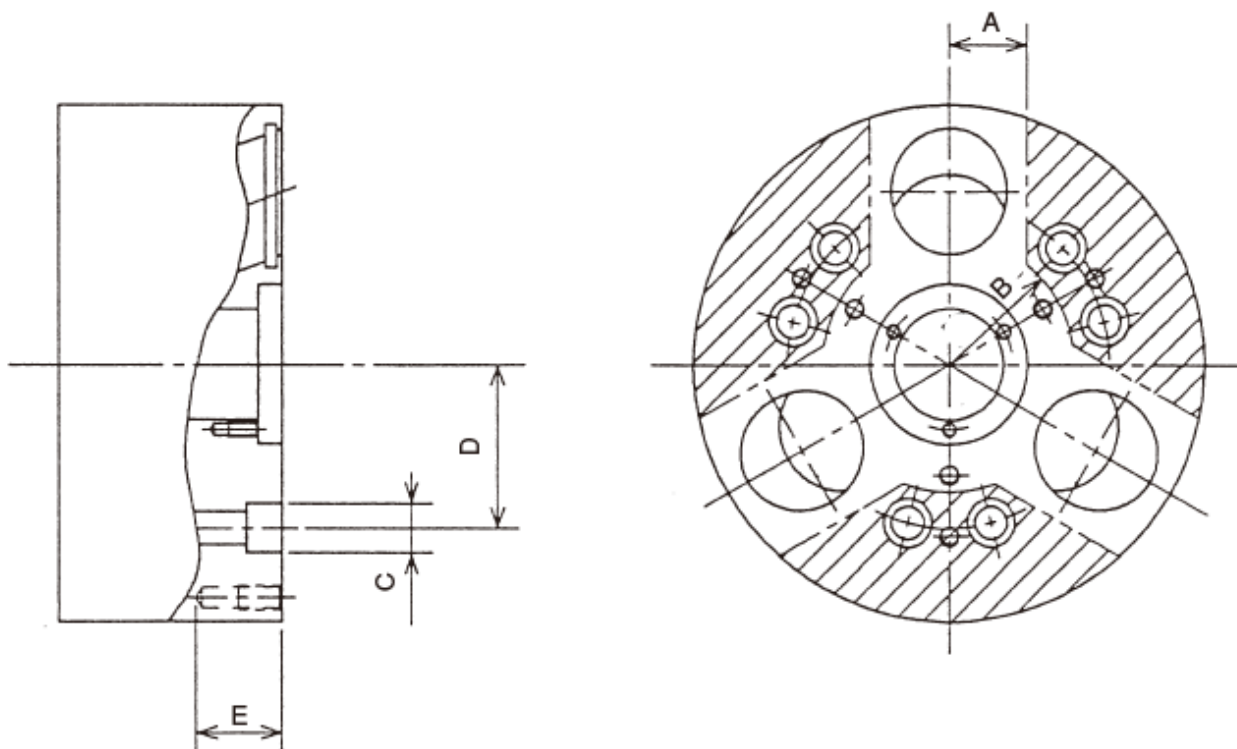

図 16 Fig.16
- チャックボデー表面にロケータや治具を取付ける場合は、追加工範囲内にタップ又は、穴開けを行って下さい。(Fig.16 参照)
- When gripping an unbalanced workpiece, turn the chuck with adequate speed. When mounting the locator or jig to the chuck, bore and tap it within additional machining range. (See fig.16)